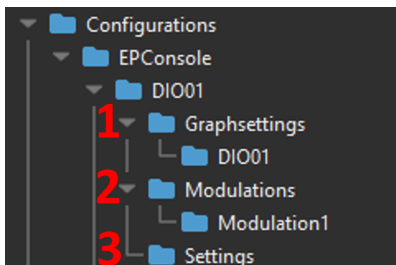
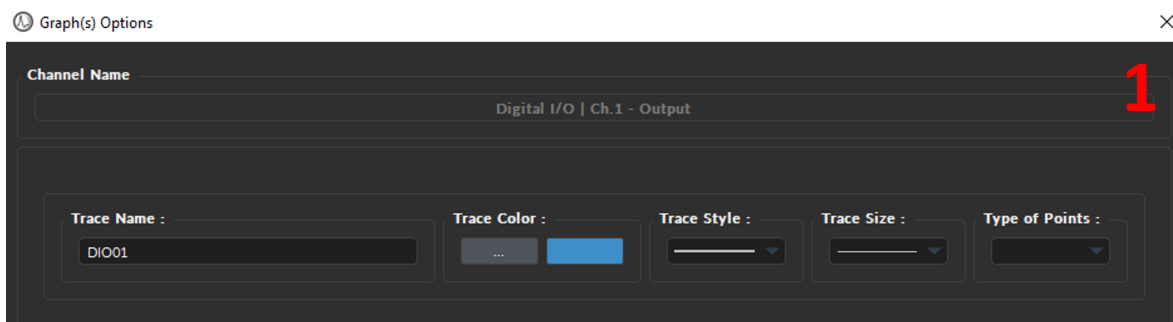

Figure 12.29: Channel-specific Structure
Figure 12.30: Acquisition Console, Graph Option(s) window
Each **Channel / Sensor Type** has different configuration attributes, however, they mostly can all be split into 2-3 sub-folders (Fig. 12.29):
1. The **Graphsettings** folder (Fig. 12.29, 1 & 12.31) contains the attributes concerning how the signals are displayed within the **Acquisition View** of the **Acquisition Console** module. Users can specify the trace name, color, style, size, and type of points within the **Graph(s) Options** window (Fig 12.30).
2. The **Modulations** folder (Fig. 12.29, 2 & 12.33a) is only included for output-type channels (Digital or Analog). This type of folder contains the user-specified attributes in the **Sequence Option(s)** of the **Channel(s) Configuration** window (Fig. 12.32, 2) (e.g. *Starting Delay, Frequency, Time ON, Pulse(s) Sequence*, etc.). Note that depending on the Channel type (Digital vs Analog) and Channel Mode (CW, *Square, Stairs*, etc.) the parameters of the **Sequence Option(s)** will change. However, all possible attributes, regardless of Channel Type and Mode, are included in the **Attribute** tab of the **GraphSettings** folder. If the attribute is unused, the value will be 0.
3. The **Settings** folder (Fig. 12.29, 3 & 12.33b) contains the attributes from the **Channel Options** box in the **Channel(s) Configuration** window (Fig. 12.32, 3).